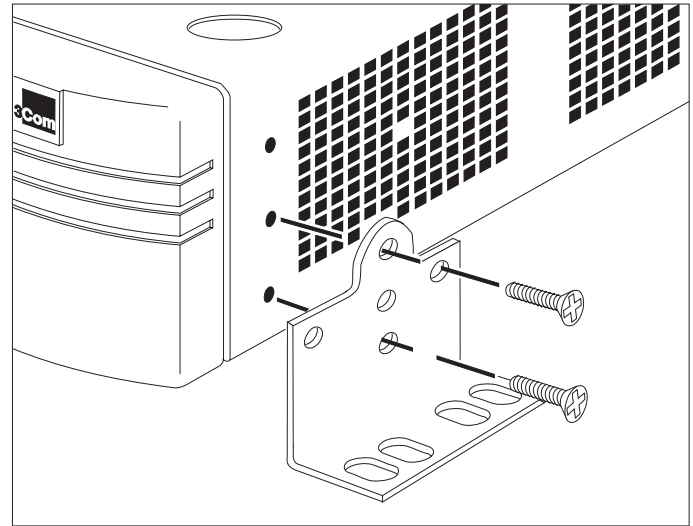

Figure 2-3 Fitting a bracket for wall mounting
- 2 Locate a mounting bracket over the mounting holes on one side of the unit, as shown in Figure 2-3.